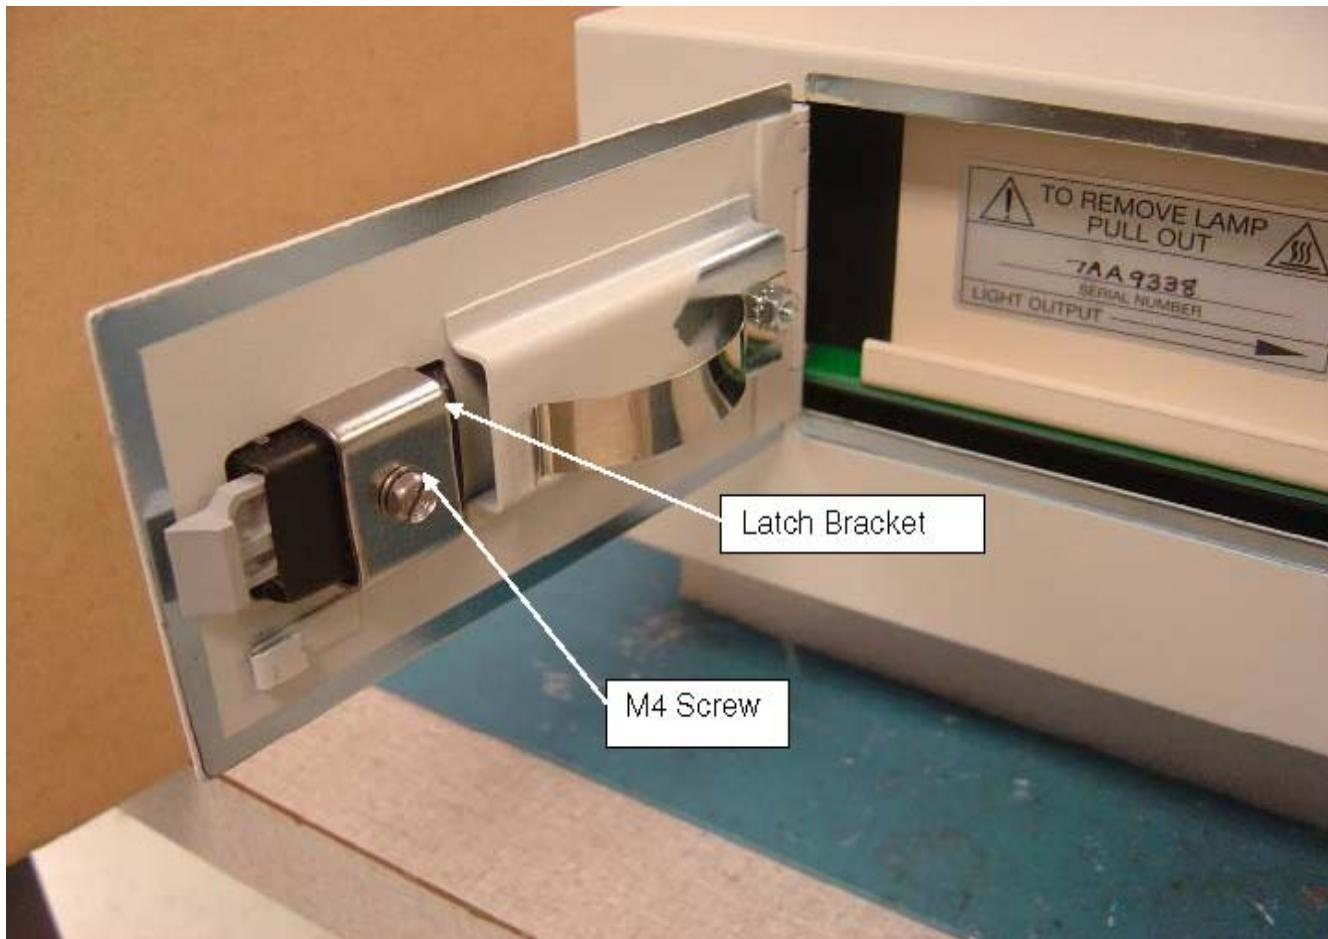

Figure 2
- 4 Unlatch and open the access door located on the side of the ProXenon 350 Surgical Illuminator – Figure 2.